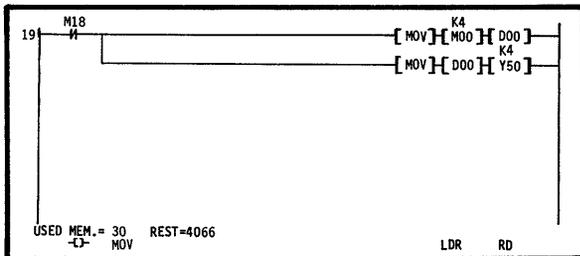

Fig. 7.32
**MOV** **GO**Among circuit blocks which use MOV instruction in the program, the circuit block with the lowest step number is displayed as shown in Fig. 7.32.